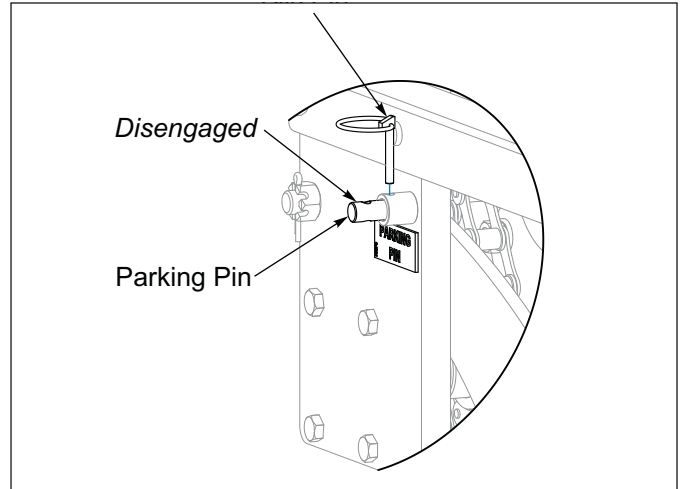

Figure 2-23: Parking Pin Disengaged
16. On the LH side of each Seeder Unit, disengage the Parking Pin that is locking the Rear Roller down. See Figure 2-23.